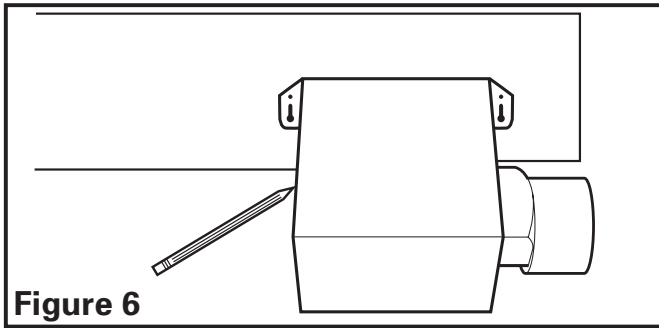

Figure 6
1. **Mounting Tab Installation:** Position housing against the joist and trace an outline of the housing onto the ceiling material (**Figure 6**). Set housing aside and cut opening, being careful not to cut or damage any electrical or other hidden utilities. Place housing next to the joist and insure that it is flush with the finished ceiling. Secure with four nails (not provided) to ensure proper installation (**Figure 4**).